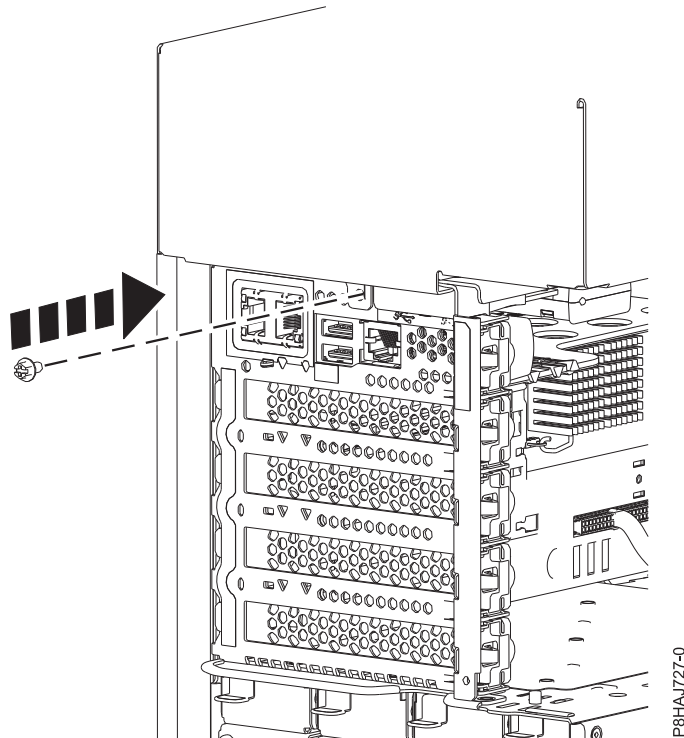

Figure 109. Installing the 8286-41A side cover screw
5. Install the side cover rear screw with a Phillips screwdriver as shown in Figure 109 on page 131.